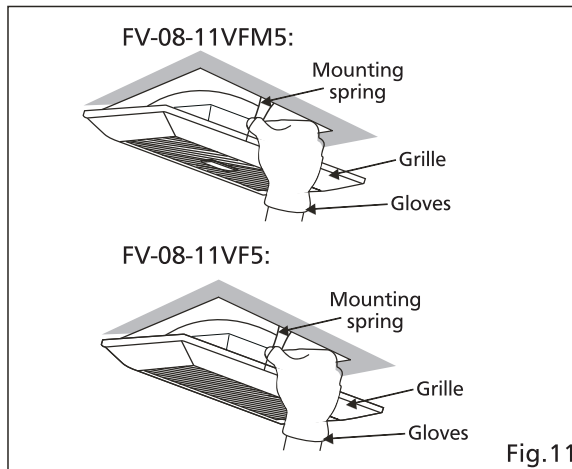

Fig.11
13. Insert the mounting springs into the slot as shown and mount grille to fan body. (Fig.11)